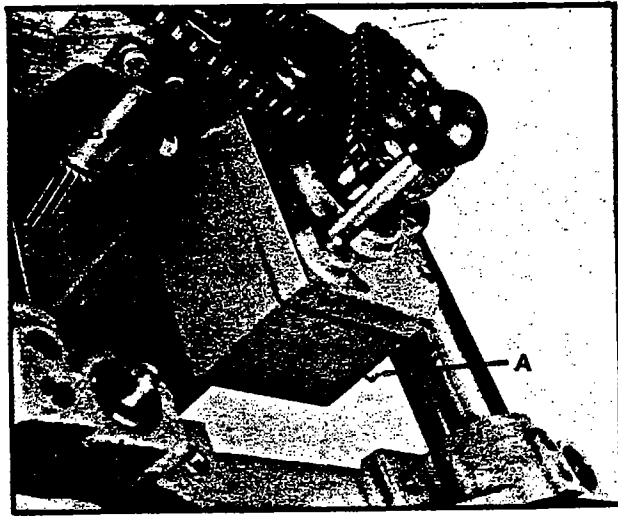

Fig. 37
The gear box oil should be changed once a year. The gear box drain plug is shown at (A) Fig. 37. The oil fill and level screw is shown at (B). The four table and raising screws should be lubricated as required using a common grease.